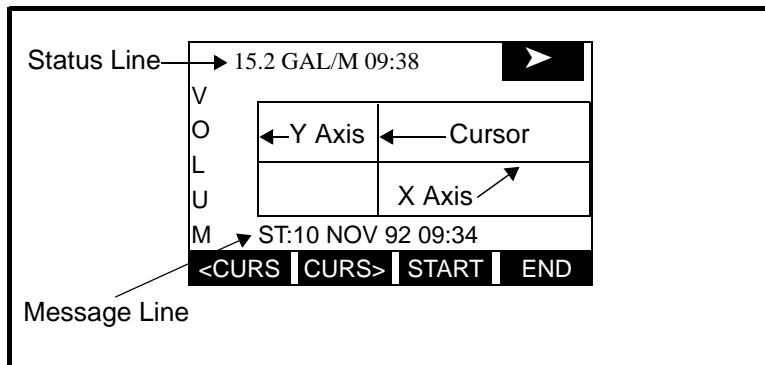

Figure 4-5: Bi-directional Graph Format
Figure 4-5 below shows an example of a bi-directional flow graph. The Y axis represents the measurement value and the X axis represents time.
The TransPort displays 120 points of data at a time. To view measurement values, use the [<CURS] and [CURS>] feature keys to move the cursor left and right. The Status Line (see Figure 4-5) displays the new measurement value, the units, and the time the measurement was taken. As you cursor over, the measurement value and the time changes.
- **START** — This feature key automatically moves the cursor to the beginning of the page. In addition, the TransPort displays the start date and time on the message line (see Figure 4-5 on page 4-11).